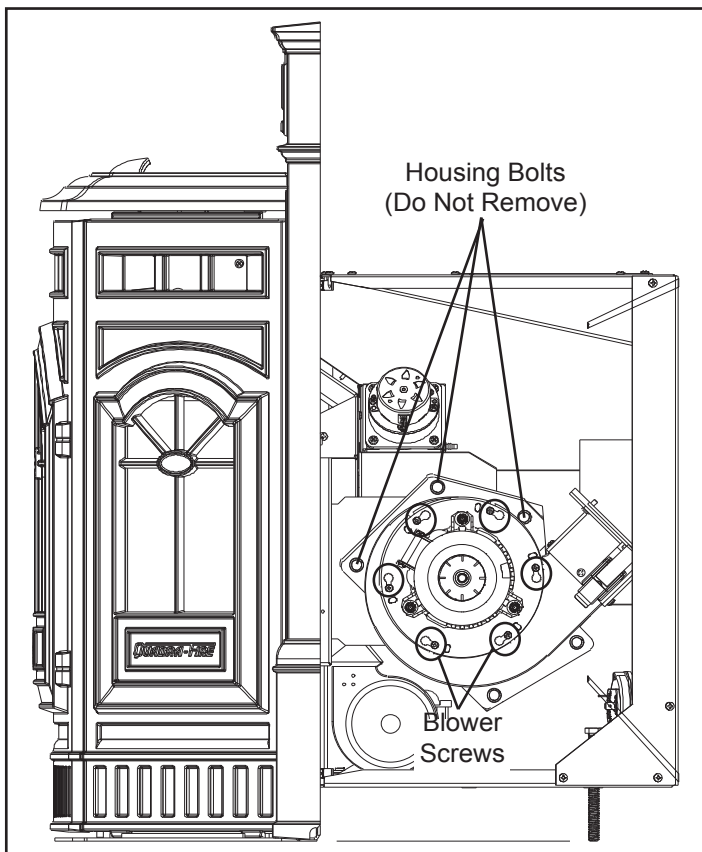

Figure 20.1
- Remove blower mounting screws (not housing bolts), **Figure 20.1**, from blower housing and remove blower. The replacement blower is shipped with a housing. If you do not need the housing, discard it. If you do need to replace the housing you will also need to replace the gasket. See Service Parts List for the part number.